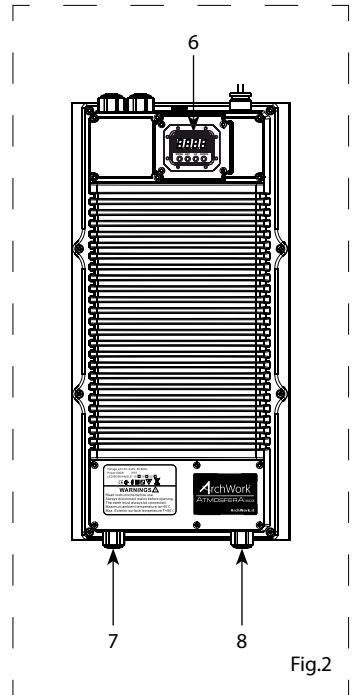

Fig.2
5. POWER SUPPLY CASING SET (fig.2);
8. XLR connection (fig.2):